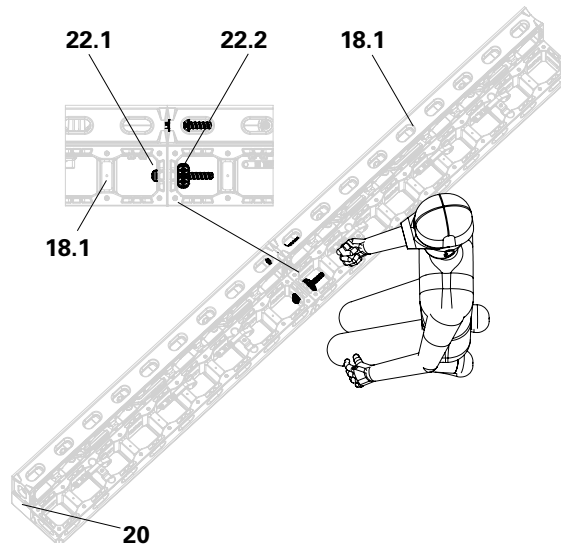

Fig. B5.03
2. Connect the DP 60 x 15 panels (**18.1**) with the DUO coupling tie (**22.1**) and the DW 15 grip (**22.2**). (Fig. B5.03)